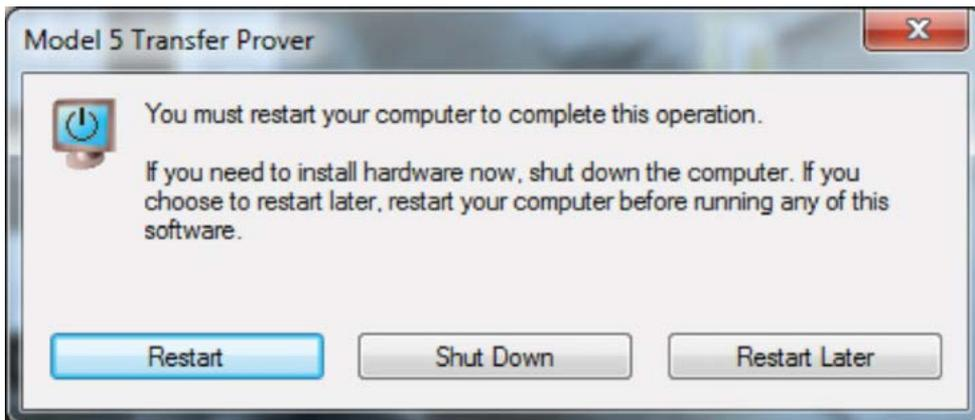

Figure 44: Restart Option Screen
10. The InstallShield will close and a second window will appear as shown in **Figure 44**. In this window, select “Restart” and the computer will reboot.